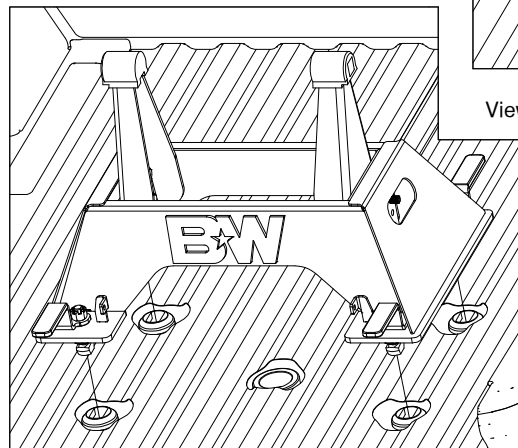

Figure C1: View of unlatched base.
- 1. Place base.** Remove the latch pins from each side of the base and rotate the handles out, see Figure C1. Position the base over the attachment points. Carefully lower it until the latch cams pass through the floor and the base rests flat against the top of the attachment points.